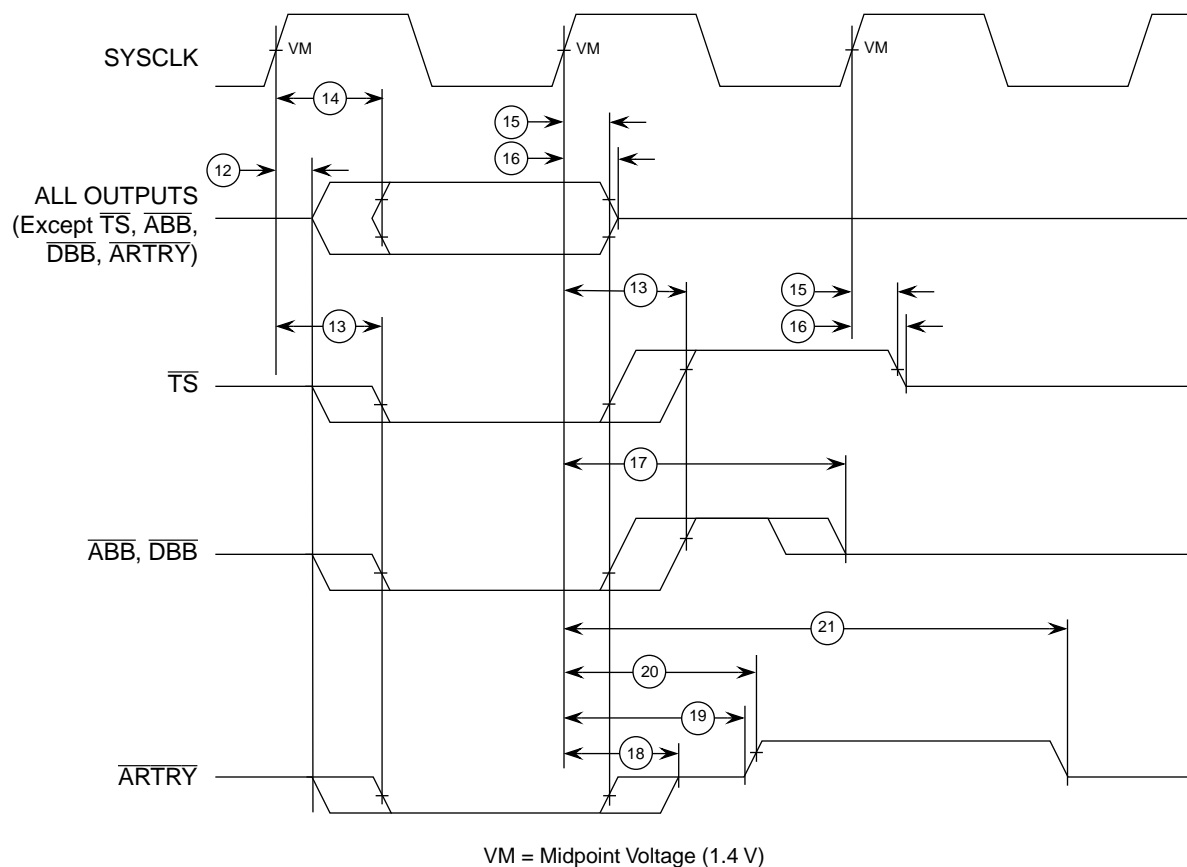

Figure 4. Output Timing Diagram
Table 8 provides the output AC timing specifications for the 603e as defined in Figure 4.
1. All output specifications are measured from the 1.4 V of the rising edge of SYSCLK to the TTL level (0.8 V or 2.0 V) of the signal in question. Both input and output timings are measured at the pin (see Figure 4).
Figure 4 provides the output timing diagram for the 603e.